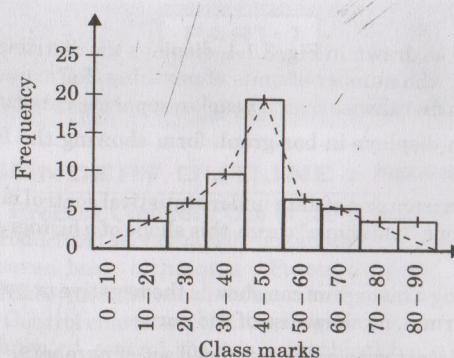

Fig. 3.1.1. Histogram.
1. A histogram as drawn in Fig. 3.1.1, displays the distribution of data by bar graphing the number of units of anything (for example, frequency of defectives monthwise over a year) in separate categories.
9. Taking the midpoints of the columns if a curve is drawn, it takes almost a bell shape. When such a curve is obtained for certain data, it is said to have a normal distribution and the histogram is shown in Fig. 3.1.1.